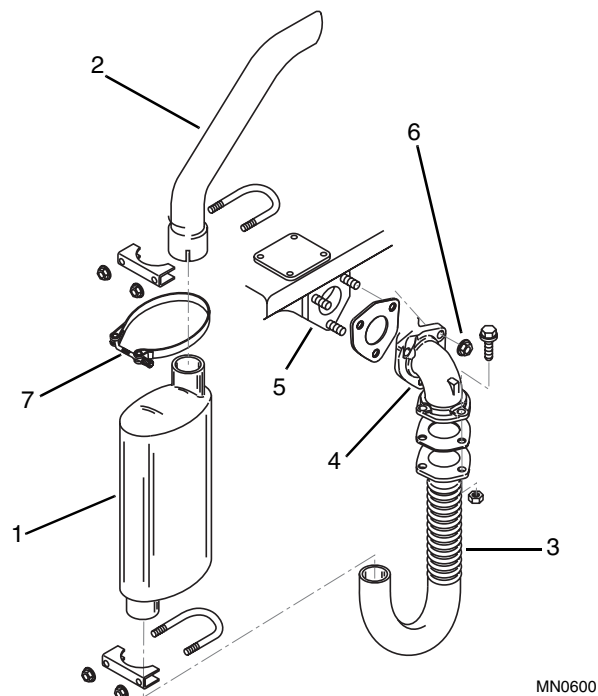

Figure 10-99 Exhaust System Removal
31. Position the muffer/tailpipe assembly (Fig. 10-99, 1 & 2) with flexible exhaust pipe (3) in the vehicle, and secure the exhaust elbow (4) to the engine exhaust manifold (5) with new hex locknuts (6). Position the muffer body clamp (7), and tighten securely.